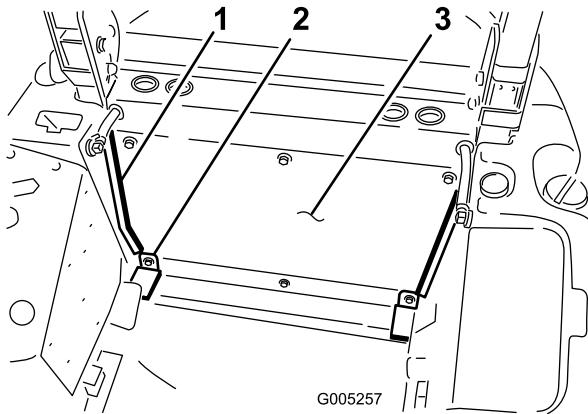

Figure 61
4. Remove the backing and affix the self-adhesive seals to each edge of the rear panel (Figure 61). Make sure each seal butts up against the fuel tank side panels.